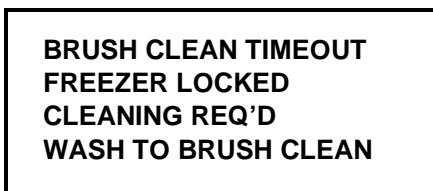

Figure 11
1. The brush clean timer has elapsed (maximum setting of 14 days). (See Figure 11.)